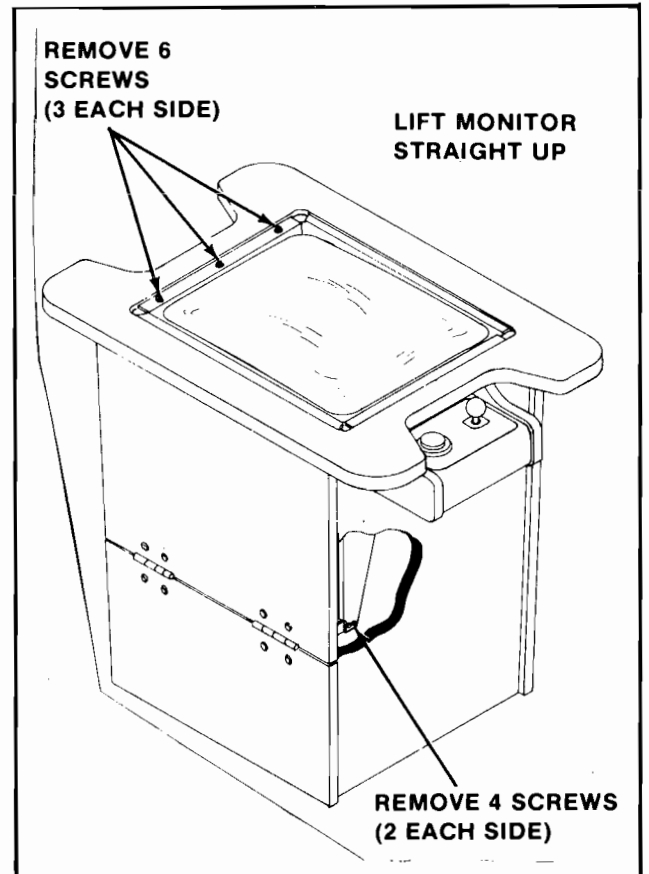

Figure 4-11 Removing the Monitor — Cocktail
**3. COCKTAIL TABLE MODEL:** See Figure 4-11.
- Remove the screws holding the T.V. monitor chassis to the "L" brackets by the door hinge(s). See Figure 4-11.
- Remove the screws which secure the T.V. monitor mounting brackets to the edges of the slot cut in the table top. See Figure 4-11.